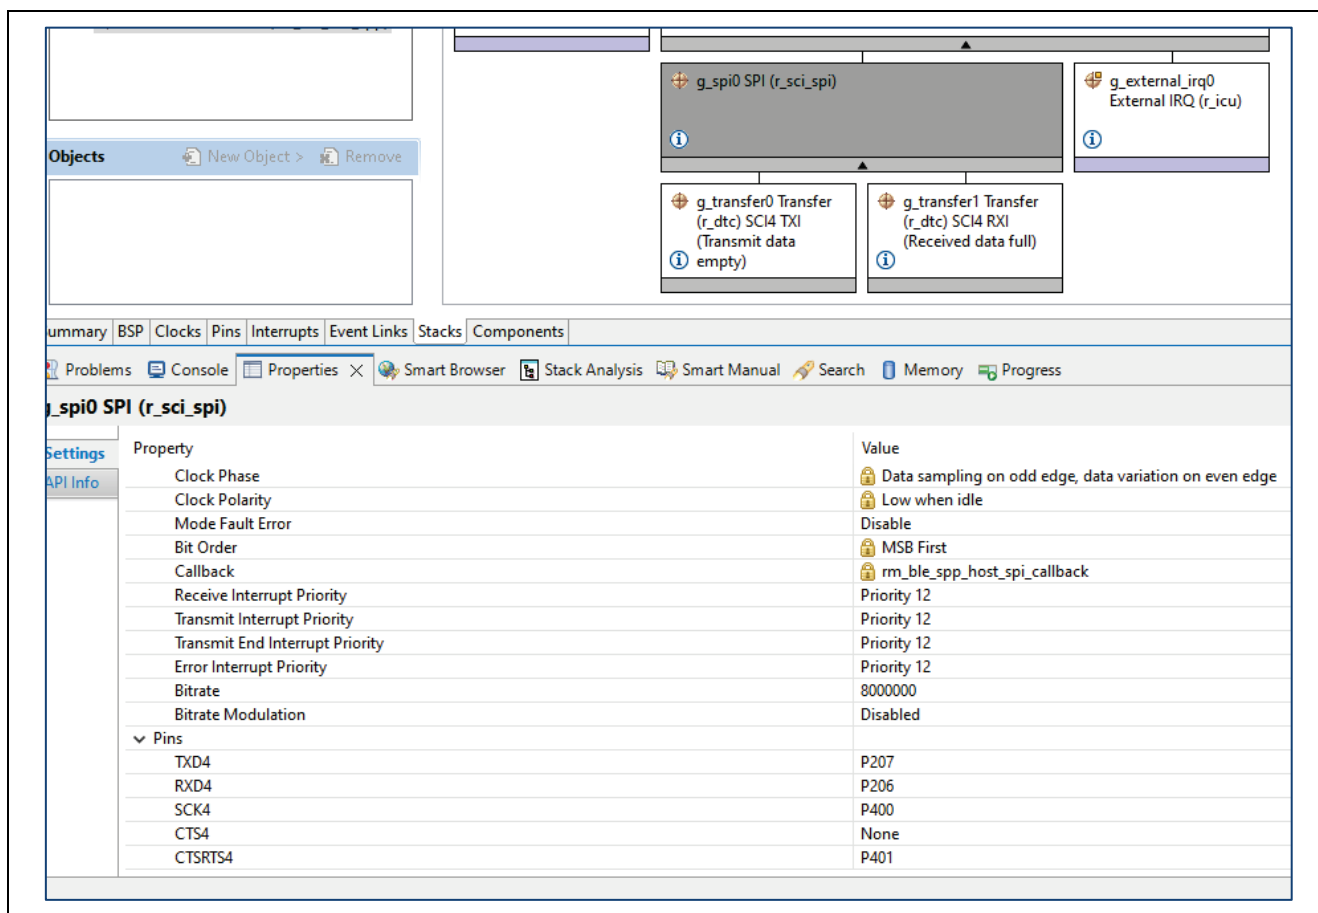

Figure 33. SPI Module Properties – Pin Assignments
- Change the following SPI Configuration Properties in the properties window as in Figure 32 and Figure 33.